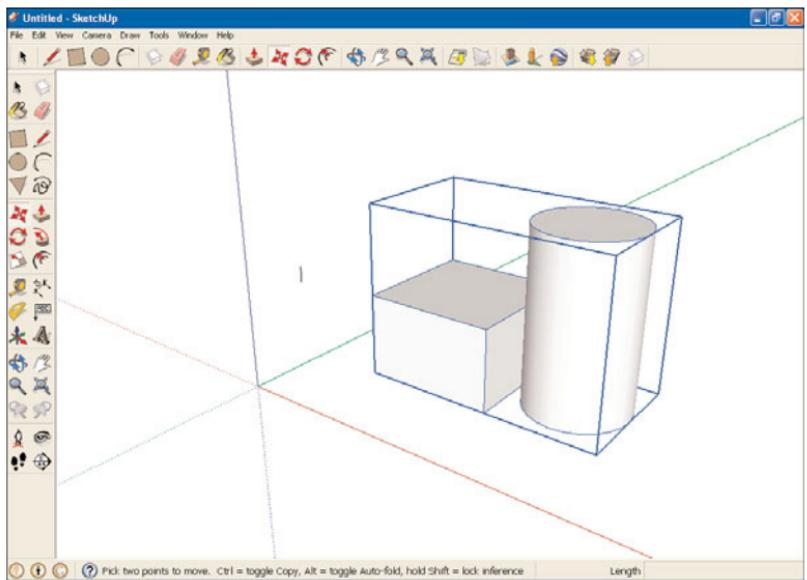

FIGURE 6.4 A new group.
7. Select the Edit menu's **Make Group** menu item. This creates a group of the cube and cylinder and selects that group, displaying it in a blue box, as shown in Figure 6.4.
10. Click the **Create** button. The dialog box disappears and a blue selection box surrounds your new component, exactly as with the group in the previous task (refer to Figure 6.4).